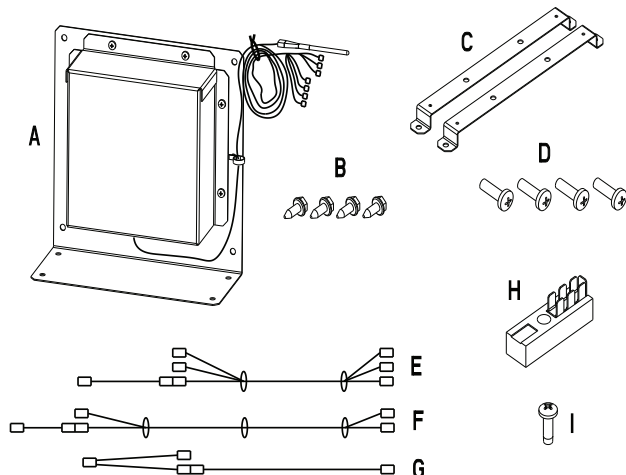
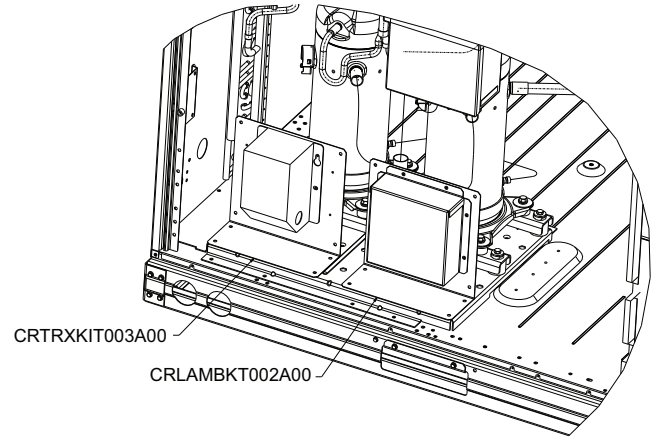

Fig. 1 — Controller Assembly Kit Details
Fig. 3 — Controller and Transformer Installation Locations
The head pressure control kit in this application is only to be used with an approved condenser motor. The hard start knob setting and the cut-out speed knob are to be set to minimum for proper functionality. See Fig. 1 and Table 1 for controller kit details.
7. Install the controller assembly (refer to A in Fig. 1) in the location shown in Fig. 3. Use the included self tapping screws as needed. Refer to B in Fig. 1.
9. Install High Voltage (HV) wire harness. Refer to E in Fig. 1.
10. Install Low Voltage (LV) wire harness. Refer to F in Fig. 1.
11. Install white wire harness. Refer to G in Fig. 1.